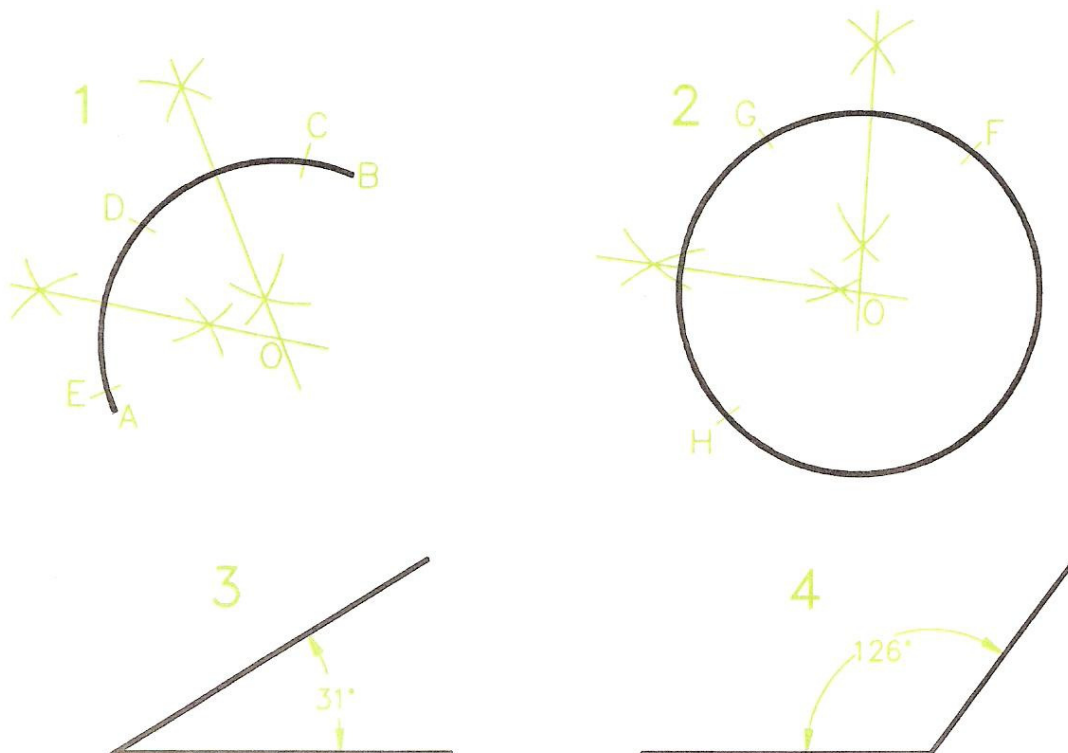

Figure 10 - Finding the Centre of an Arc and a Circle
1. Draw any arc - Drawing 1 Figure 10.
5. Draw any circle - Drawing 2 Figure 10.
1. Drawing 3 of Figure 10 is an acute angle - it is less than 90 degrees.
2. Drawing 4 of Figure 10 is an obtuse angle - it is between 90 degrees and 180 degrees.